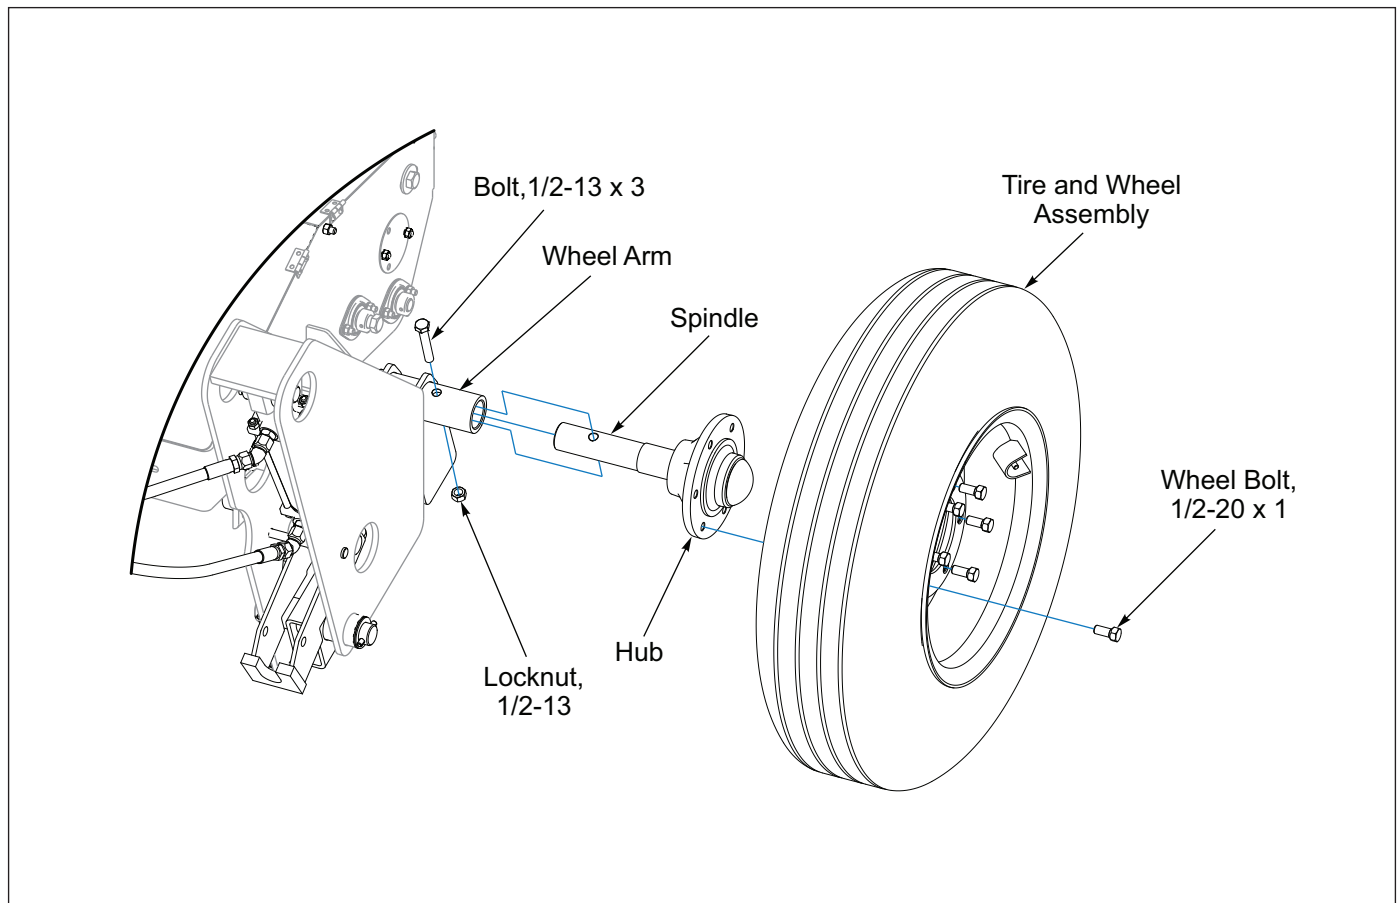

Figure 2-8: Hub and Spindle
6. Apply anti-seize to Spindles and insert a Hub and Spindle Assembly into each Wheel Arm. Secure in with 1/2-13 x 3 Bolts and Locknuts. **See Figure 2-8.**